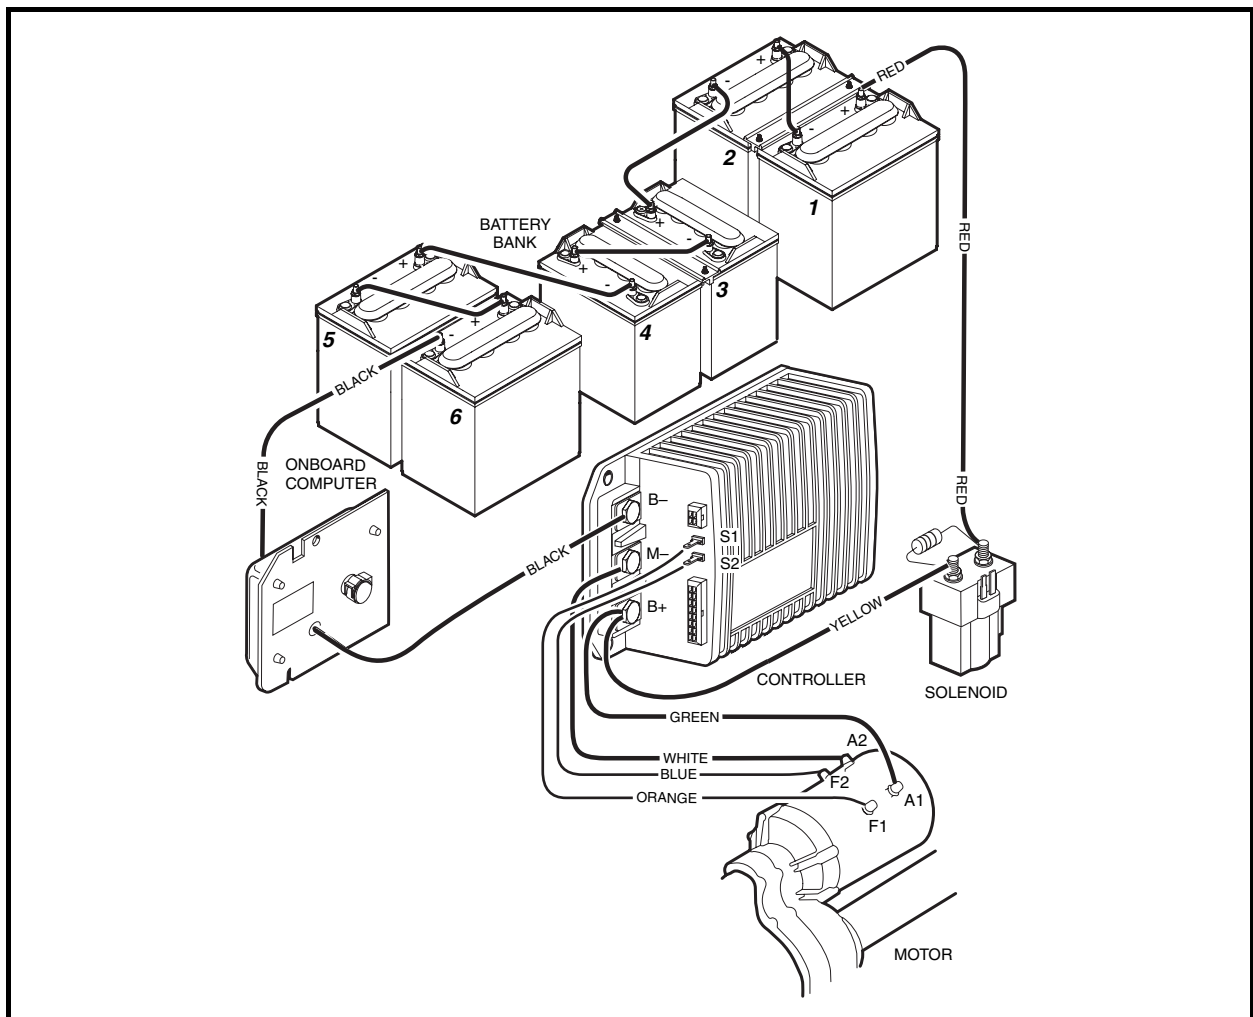

Figure 11-4 Power Circuit
- Power circuit (**Figure 11-4, Page 11-9**)